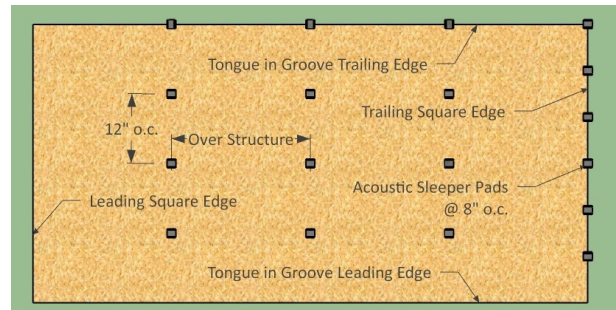

Figure 1: Inverted view of standard panel
- Fig. 1: For wood framing. Typical plan detail has pads in the field at a maximum of 24" o.c. along the panel length aligned with framing members, and maximum 12" o.c. across the panel width for 24" o.c. span-rated wood structural panels with pads at 8" o.c. at trailing square edge.